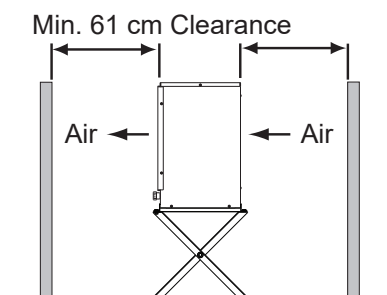

Fig. 9
- A dry and well ventilated area with 61 cm clearance at front and rear for proper air circulation and ease of maintenance and/or service should they be required. See Fig. 9.